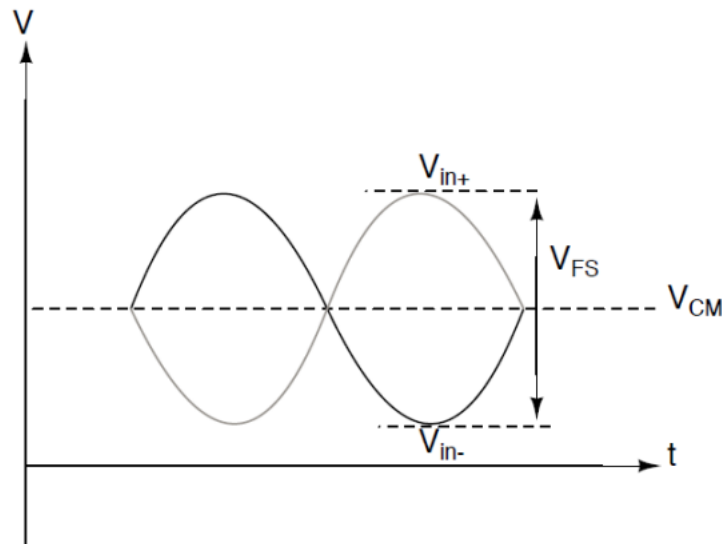

Figure 3: Full Scale Voltage and Common Mode Voltage Definition
- Choose a reasonable value for full-scale voltage (V_{FS}) and common mode voltage (V_{CM}) for a supply voltage of V_{DD} shown in Fig. 3 and calculate the size of least significant bit (V_{LSB}). What constitutes a reasonable V_{FS} or V_{CM} ?